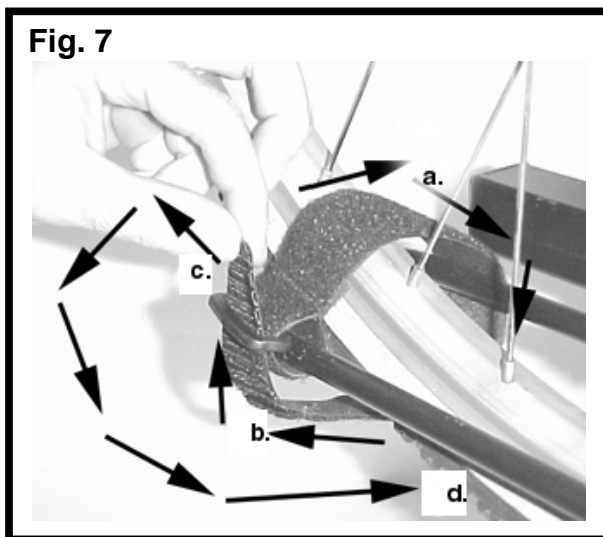

Fig. 7
- d. Attach Velcro® firmly. See **Fig. 7**.